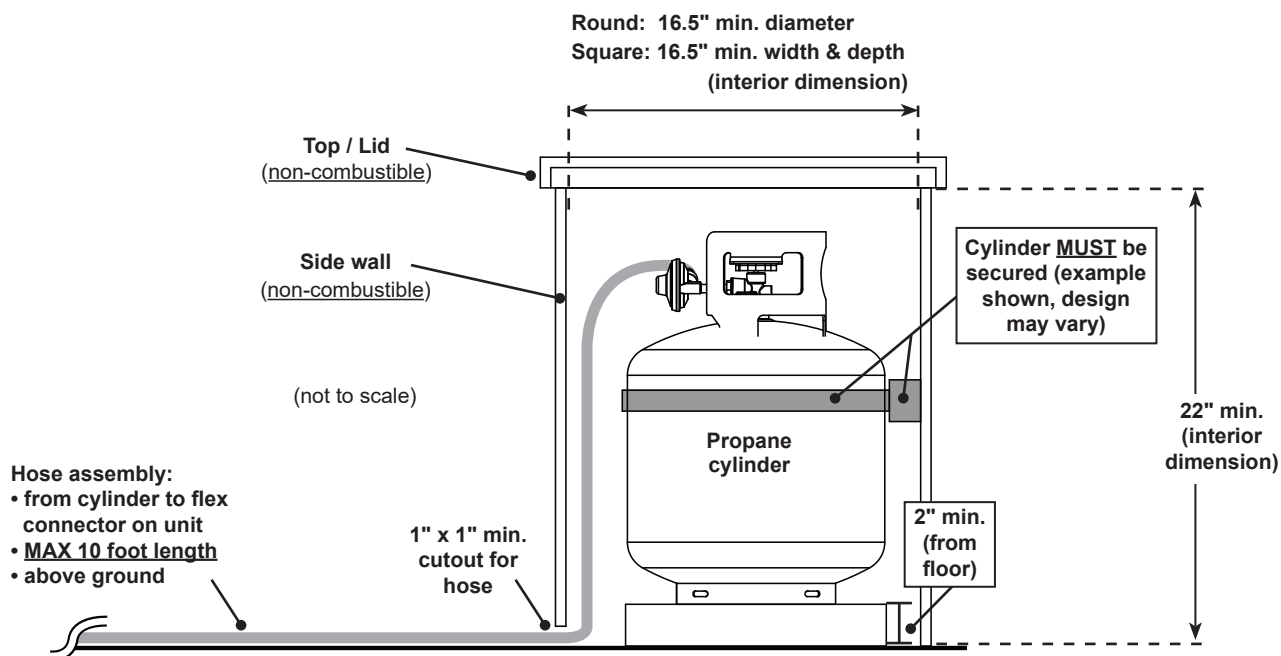

Fig. 16-1 Propane cylinder enclosure specifications (side view)
The cylinder enclosure can be constructed according to your individual preference, while following all guidelines found in this manual. **The enclosure MUST (see Fig. 16-1):**
- have minimum dimensions as illustrated in Fig. 16-1